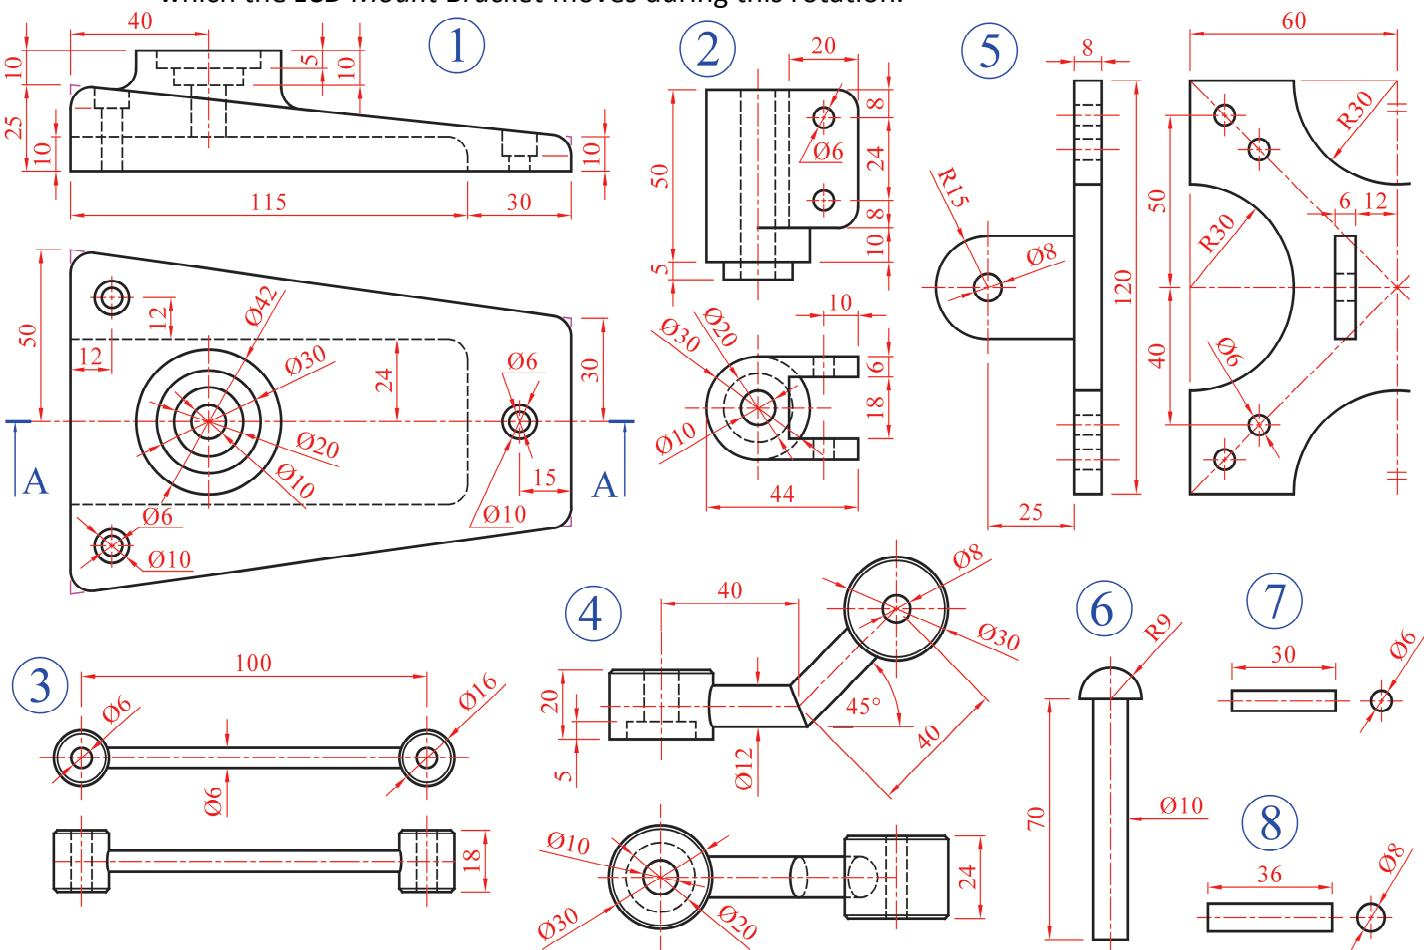

Fig. C-5
- C-5. Details of a **Desk Monitor Stand** are shown in Fig. C-5. The parts list is given below together with a partially exploded 3D graphic of the stand and its constituent parts.